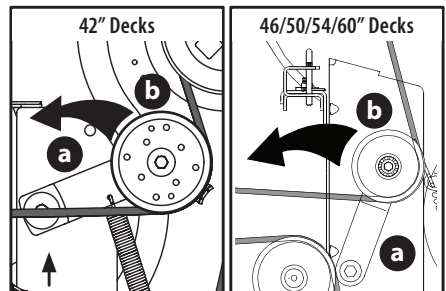

Fig. 37
- a. Using the deck lift pedal and knob, raise the deck to the position that provides the most horizontal run of the belt between the deck idler pulleys and the PTO pulley on the bottom of the engine (Fig. 37).
- b. Working from the middle of the tractor, pivot the idler bracket (a) and movable idler pulley (b) rearward just far enough to lift the belt up and over the spindle pulley (Fig. 37).